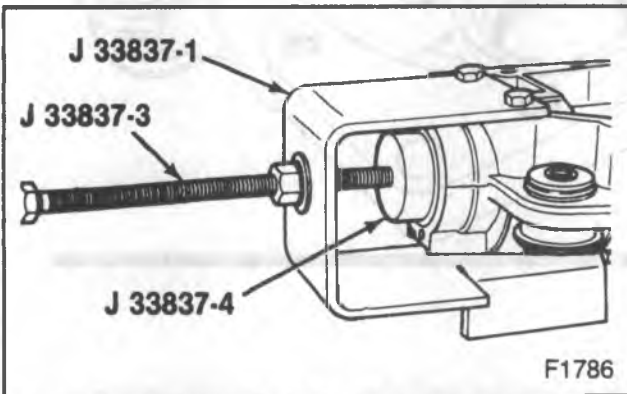

Figure 16—Installing the Outer Pinion Bearing Cup
1. Bearing cup (41) into the case using J 33837-1, J 33837-3, and J 33837-4 (figure 16).